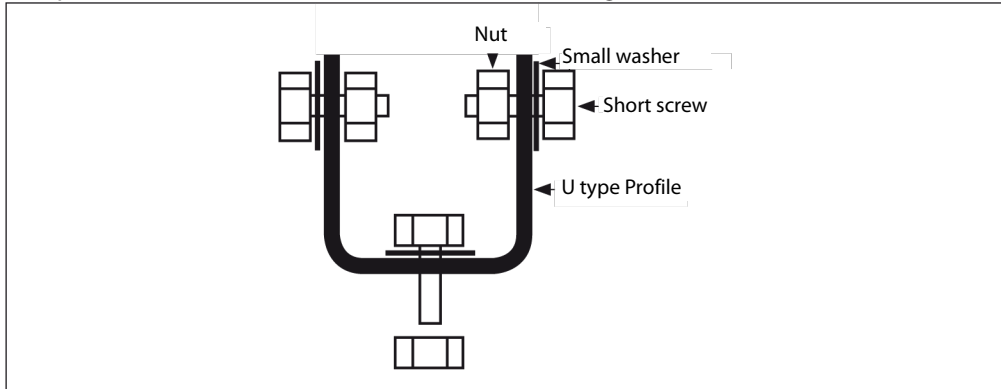

Figure 05
- Prepare two narrow U formed sections as shown in figure 05 (below).